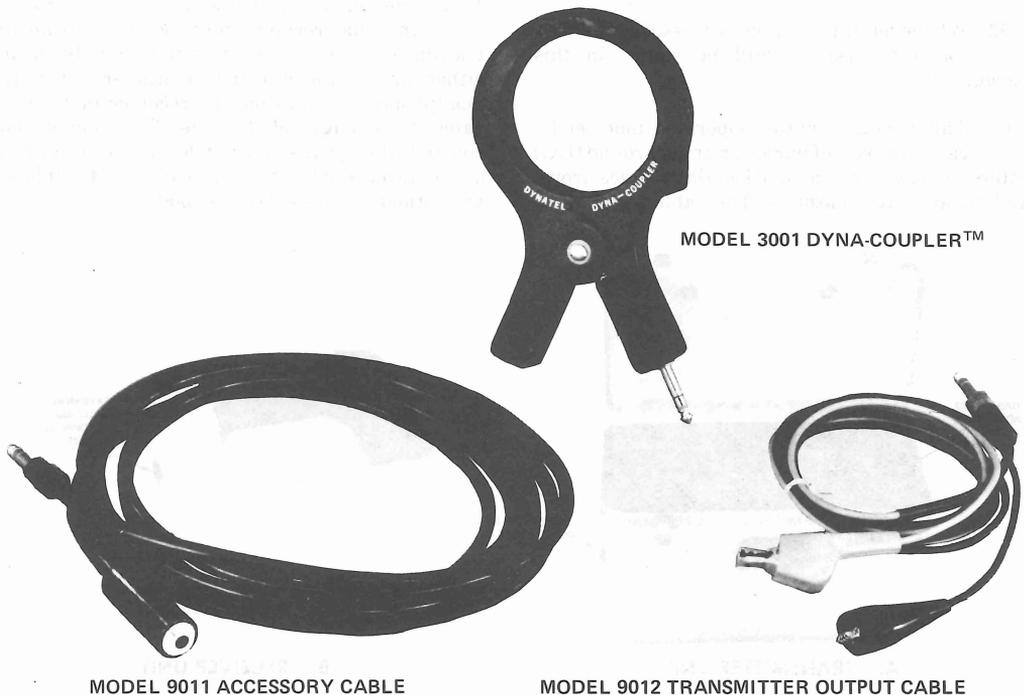

Fig 2. — Dynatel 500 Accessories
2.01 The Cable Locator consists of a transmitter, receiver, and accessory units (Figure 2). The transmitter and receiver are made of durable yellow fiberglass for light weight and high visibility, and water-resistance in wet-weather operation. For compact storage and carrying, the receiver and accessory units fit into the transmitter case when not in use. (Opt. Eqpt. - Figures 14, 15 and 16)